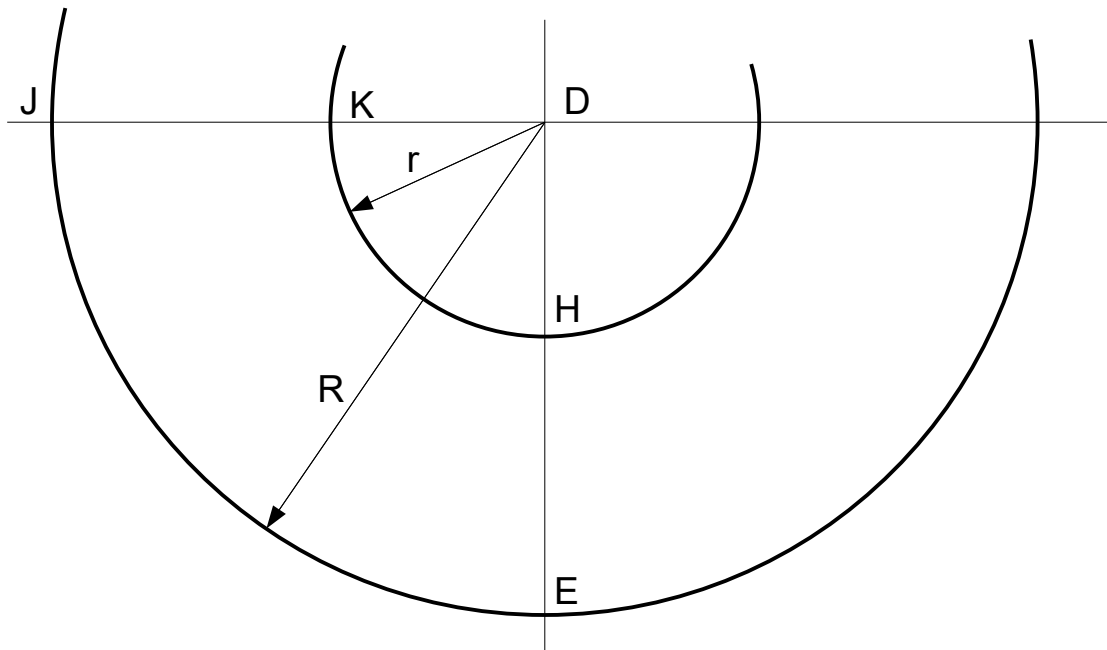

Figure 5
Step 4 (Figure 5): draw two arcs with radii $r = DF$ and $R = DA$ centered on D (these are the edges of the base and top of the frustum after it is rolled into shape):